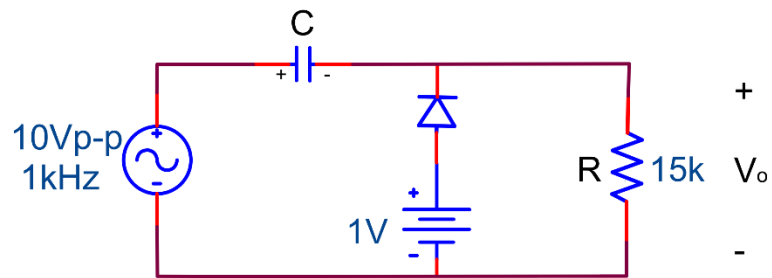

Figure 3.8
5. Refer to the circuit in Figure 3.8. Assume a 10V peak to peak, 1 kHz square wave input. Sketch the output waveform assuming: